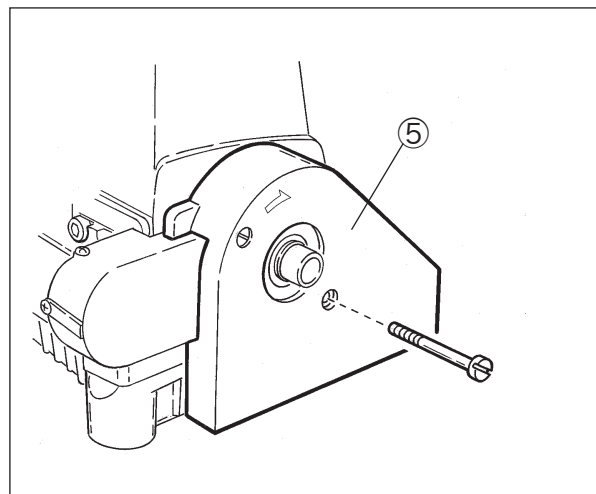

Fig. 2-10
- (1) Install the belt cover ⑤. (Fig. 2-10)